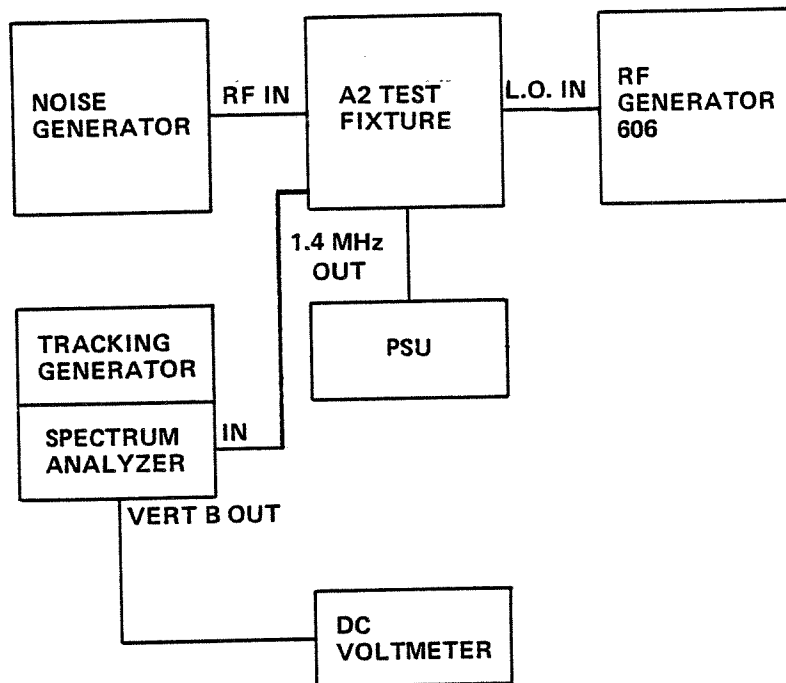

Figure 3-9. Noise Figure Measurement, Test Set-Up
1. Connect test equipment as shown in Figure 3-9.